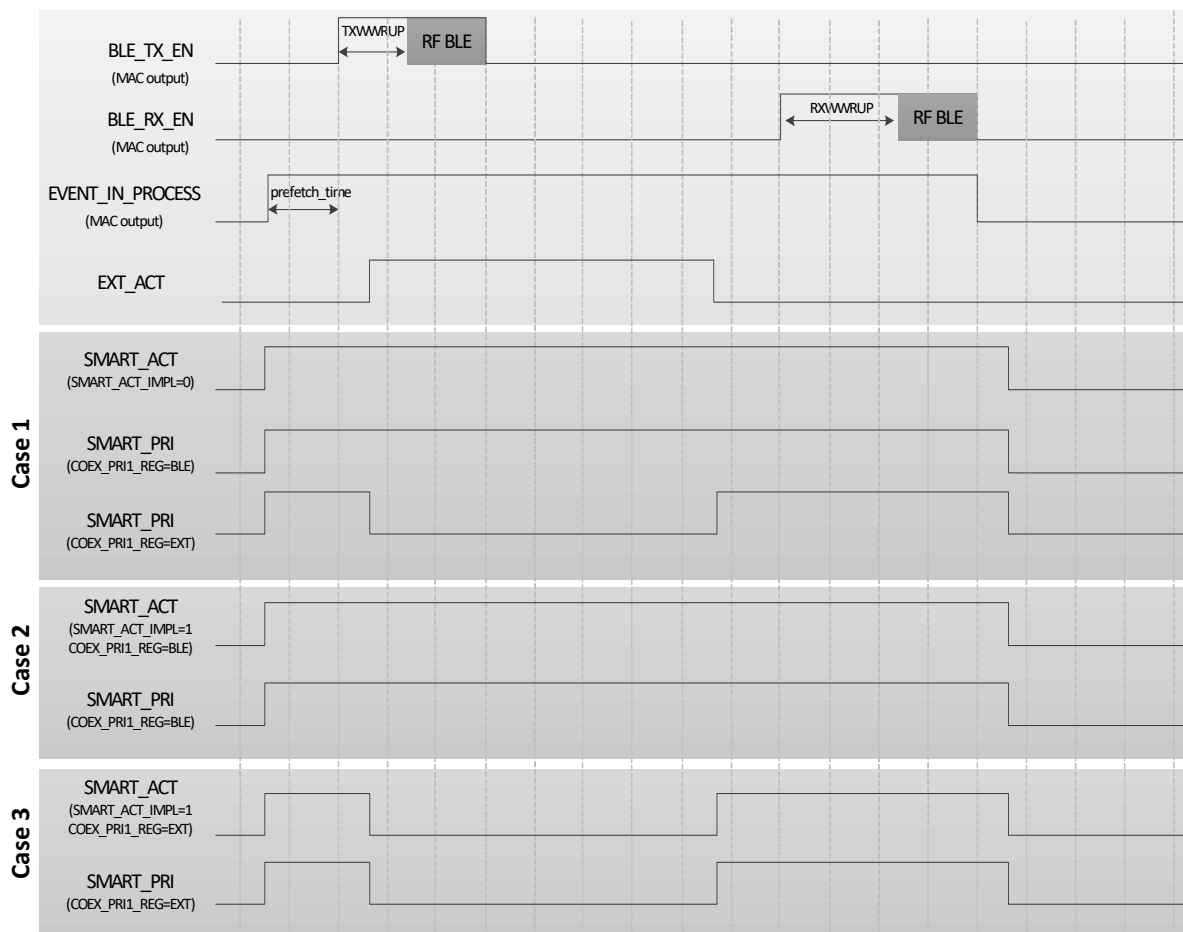

Figure 125: Coexistence signalling cases
2. SMART_ACT: this is an output from the DA14681 and when asserted it designates that the DA14681 is transmitting or receiving hence an external device should be aware of the radio activity. The exact timing of the assertion of this signal is depicted in Figure 125.
An overview of the aforementioned scenarios is presented in Figure 125.